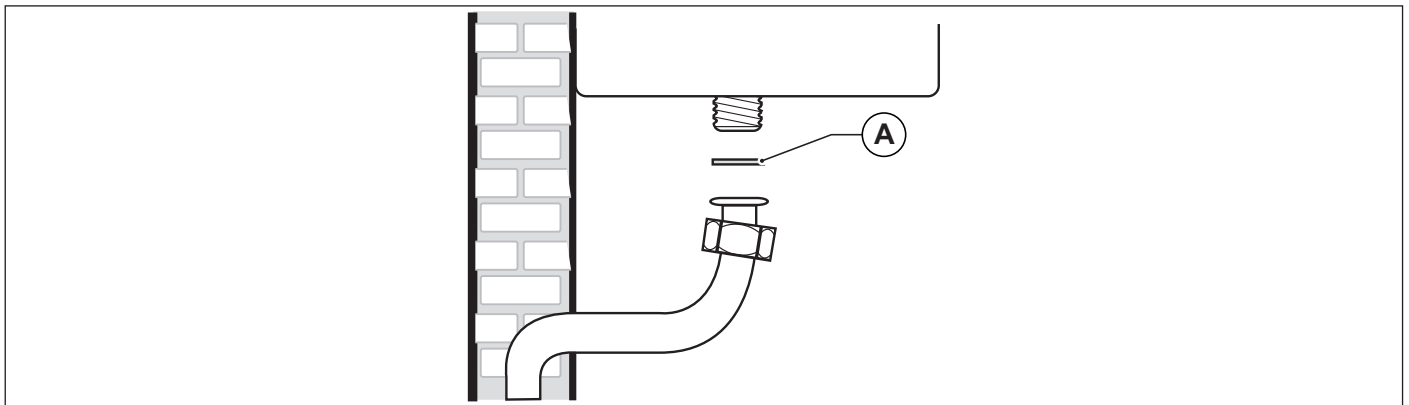

Fig. 17 Connection to gas mains
When connecting the boiler to gas supply network, it is **COMPULSORY** to install an appropriately sized gasket (A) made from suitable material (see Fig. 17 Connection to gas mains).